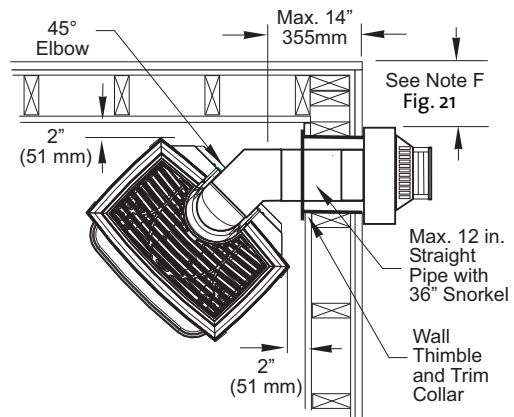

Figure 20. Corner Installation with 36" Snorkel Termination.
- **36" Snorkel:** The maximum horizontal run may be no more than 6 ft. (182 cm.) See figa. 19-20. One 45° Elbow may be used for a corner installation as shown in fig. 20.